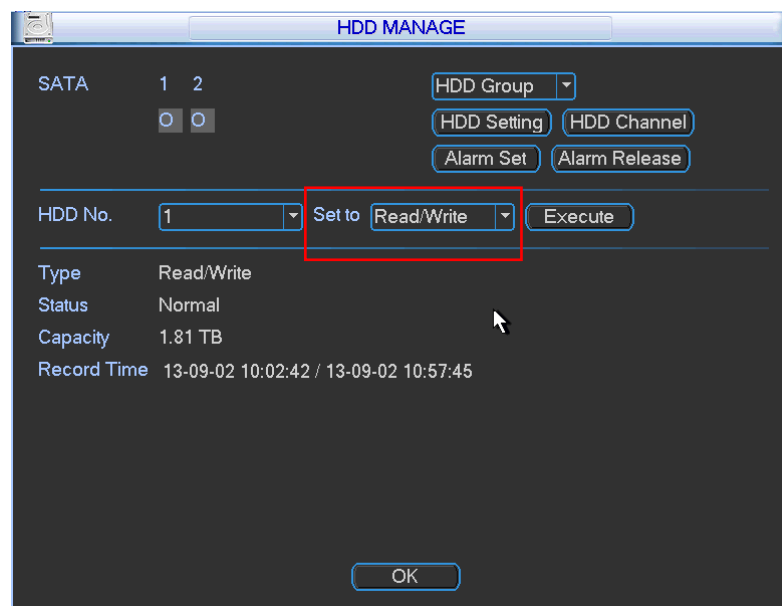

Figure 4-16
In the main menu, from Advanced to HDD management, you can set one or more disk(s) as redundant. You can select from the dropdown list. See Figure 4-16. System auto overwrites old files once hard disk is full.
- Set redundant disk(s) as read-only disk or read-write disk (Main menu->Advanced->HDD management). See Figure 4-16. System needs to reboot to get setup activated. Now you can search or playback file in redundant disk.